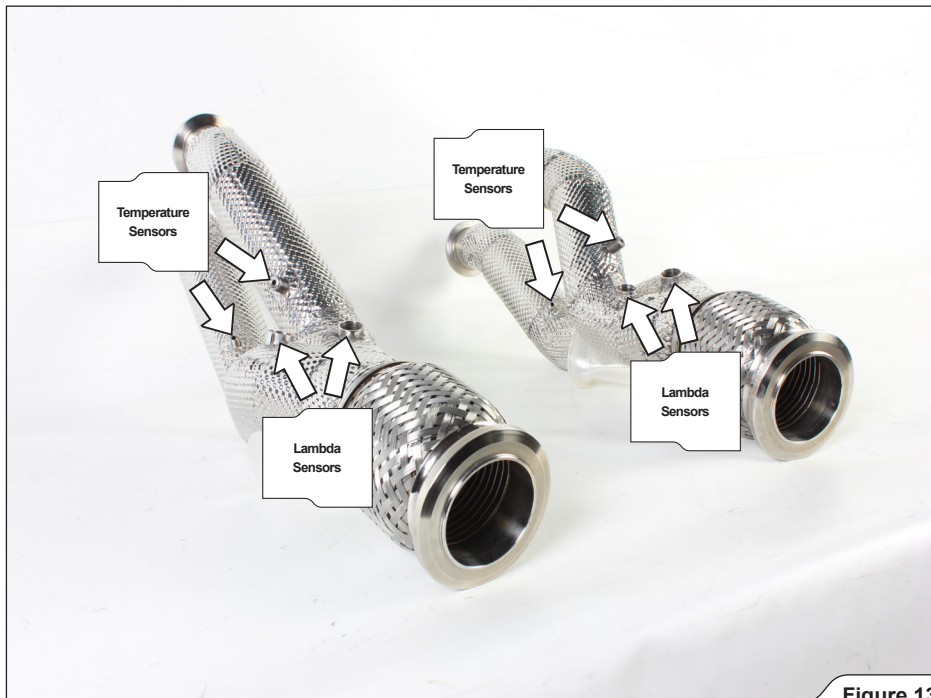

Figure 13
1. Install the Akrapovič Link Pipes in the reverse order from the order in which stock link pipes were removed; check vehicle manufacturer manual for tightening torques (**Figure 13, 14**).